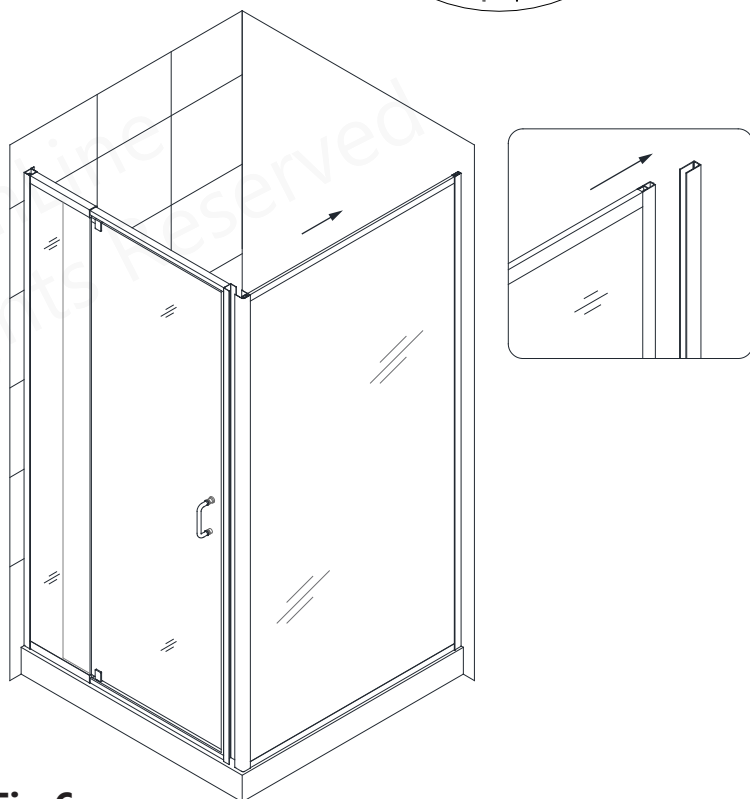

Fig 6
6. Slide the **Return Panel Assembly (#09)** into the **Return Panel Wall Profile (#11)**. (Fig 6)